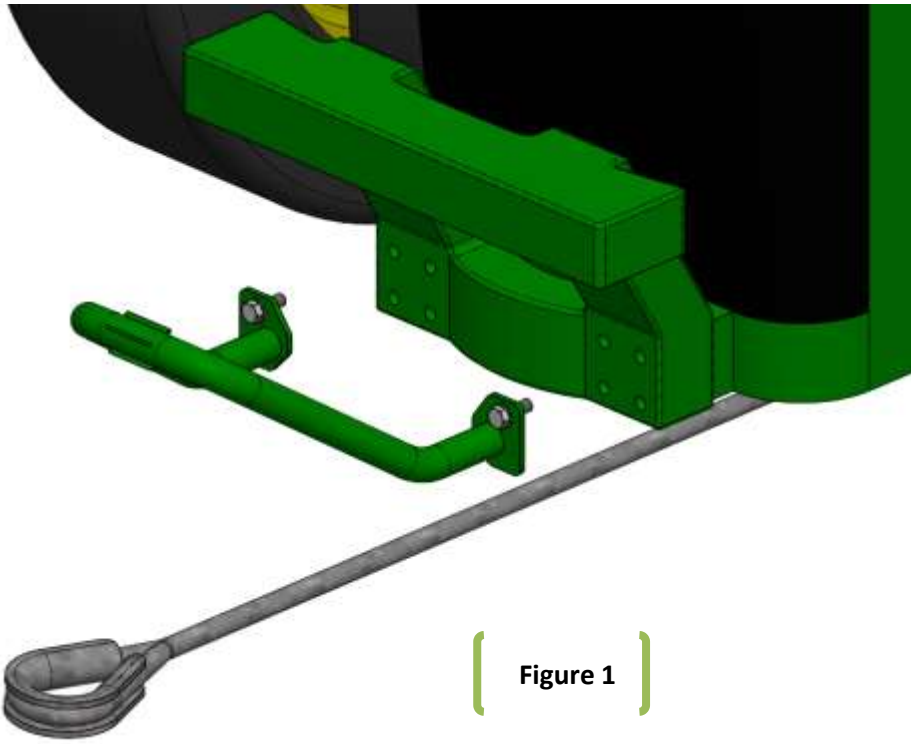

Figure 1
Refer to Figures 1 & 2
1. Tractors **with** Weight Bracket (See Figure 1) - Remove the top outer bolts holding the weight bracket, from each side, and bolt on LAN8RTC008. Reuse the original bolts.